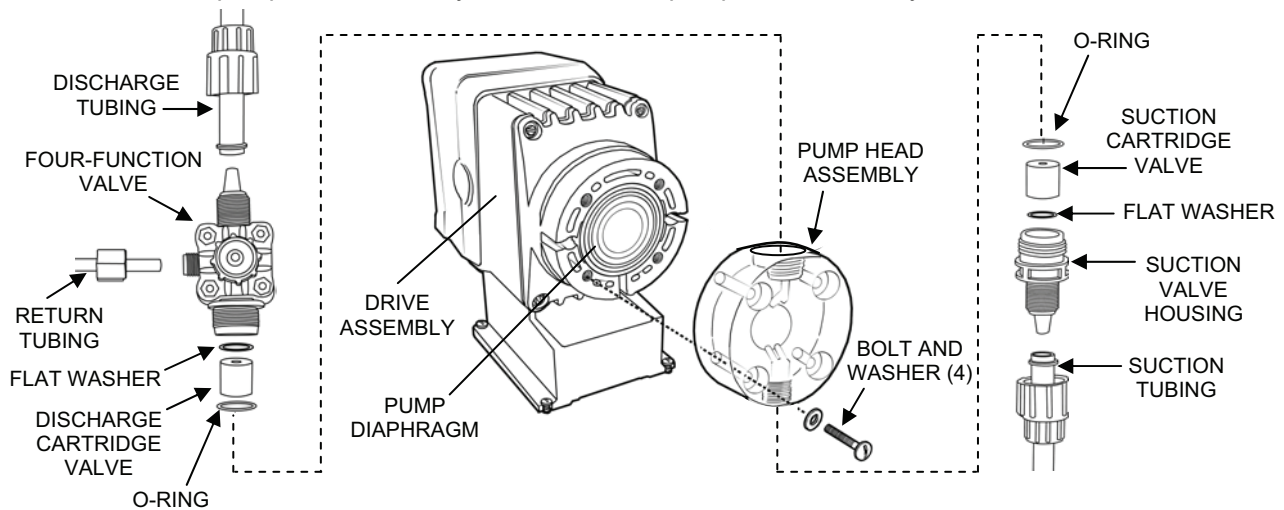

Figure 9. Pump Head Removed from Chemical Injection Pump.
1. Remove the pump head assembly from the chemical injection pump as follows (see Figure 9):
- e. Remove the four bolts and washers that secure the pump head to the chemical injection pump drive assembly and remove the pump head assembly (see Figure 9).